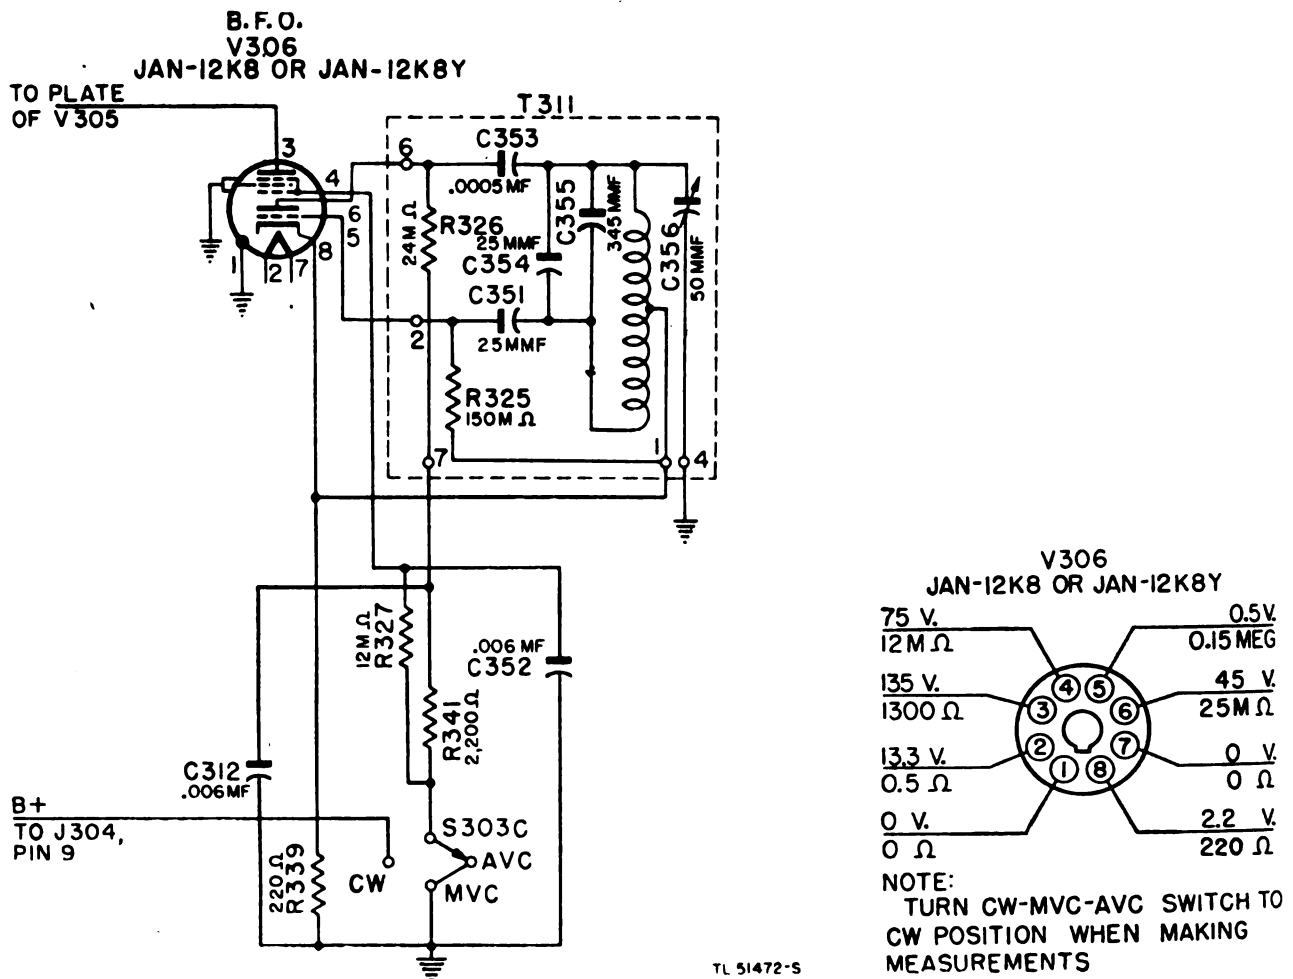

Figure 20. Beat-frequency oscillator stage schematic,
a. STAGE DATA. (1) The beat-frequency-oscillator stage is shown in figure 20.
(2) Voltage and resistance values for socket terminals of Tube JAN-12K8 (V306) to ground, shown on stage schematic.
(3) Parts data for beat-frequency oscillator stage, table XIV.
b. TROUBLE LOCATION. (1) *Tube check.* Remove the tube from the socket. Test with the tube checker and replace with a new tube if necessary. In replacing tube see that it is seated firmly in its socket.
(3) *Point-to-point continuity check.* If the preceding steps fail to indicate the cause of trouble, perform a point-to-point continuity check, referring to the stage schematic, figure 20. Check the switches in all positions. Check for broken leads, faulty soldered joints and shorts.
(fig. 20)